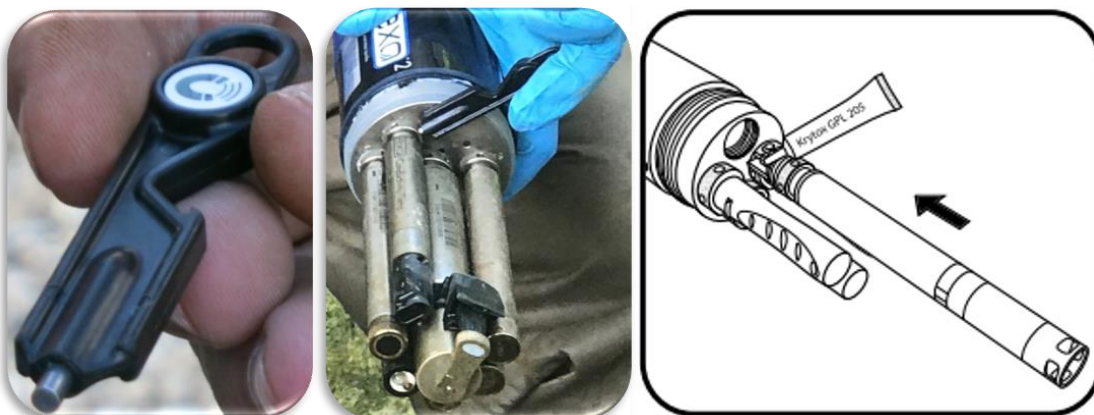

Figure 52. Multisonde Probe Tool and Krytox GPL 205 Lubricant Use (Source: [ER \[16\]](#))
9. Clean sensor ports and reinstall sensor probes using the YSI probe reinstallation tool (Figure 52).
- b. Apply a light coat of Krytox grease to the rubber mating surfaces of the connector (not the O-ring) and a small dab of Krytox grease on the threads of the locking nut post-winterization/Sensor Refresh (Figure 52).